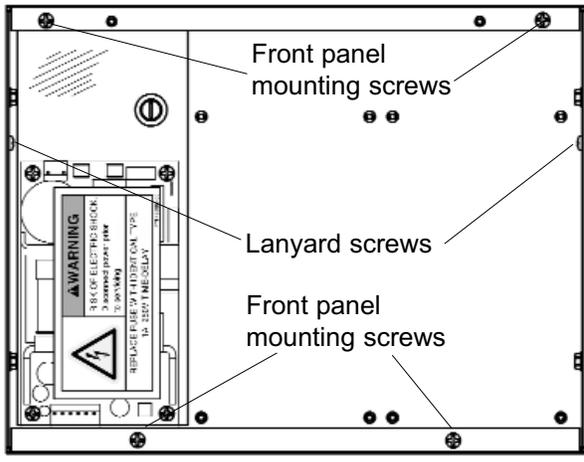

Figure 30: Master / Combo Panel Screws
2. Remove front panel mounting screws from alarm panel back box assembly (Figures 30 and 31).
3. Remove lanyard mounting screws from alarm panel back box assembly (Figure 30 and 31).